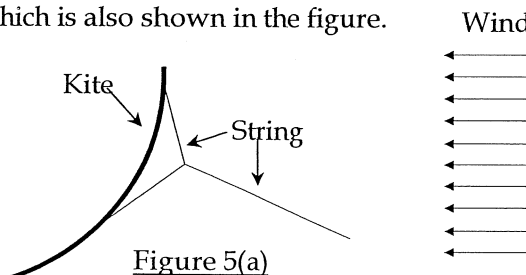

Figure 5(a)
- The side view of a two-dimensional kite is shown in figure 5(a). The kite is flying in a steady wind that blows from right to left, as shown in the figure. The kite is held in place by a string, which is also shown in the figure.